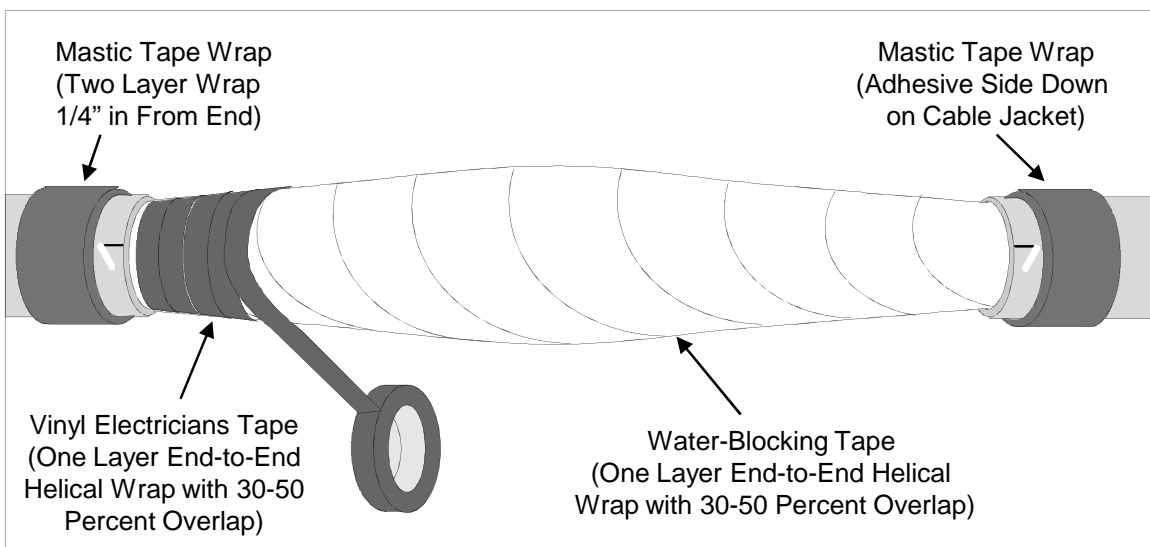

Figure 9
9.2 Use water blocking tape provided in Tube Cable Splice Kit and apply a helically-wrapped layer over tube splice area. Start and end water blocking tape wrap just inside jacket ends. Overlap adjoining wraps by 30-50 percent. **See Fig. 9.**
ends of the water blocking tape to the cable and keeps it from tearing when the shrink sleeve is collapsed. Overlap adjoining wraps by 30-50 percent. **Refer to Fig. 9.**
9.5 Use mastic tape provided in Tube Cable Splice Kit to wrap two (2) layers around each tube cable jacket end. Apply mastic tape about 1/4" in from end of jacket. Be sure to apply mastic tape with its adhesive side directly on the cable jacket and wrap it tightly to avoid air voids. **Refer to Fig. 9.**